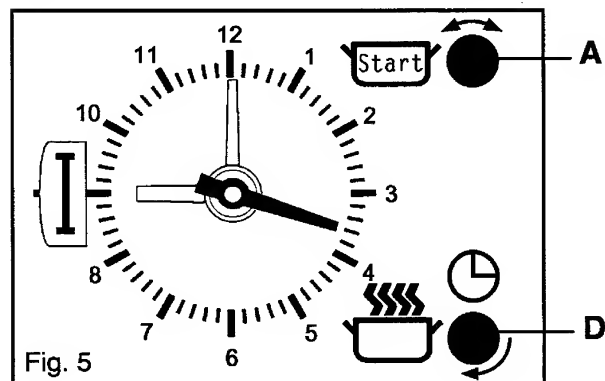

Fig. 5
- ii) Check the clock shows the right time of day and the cooker is set in manual (see point 2). Adjust as necessary as Fig. 5.